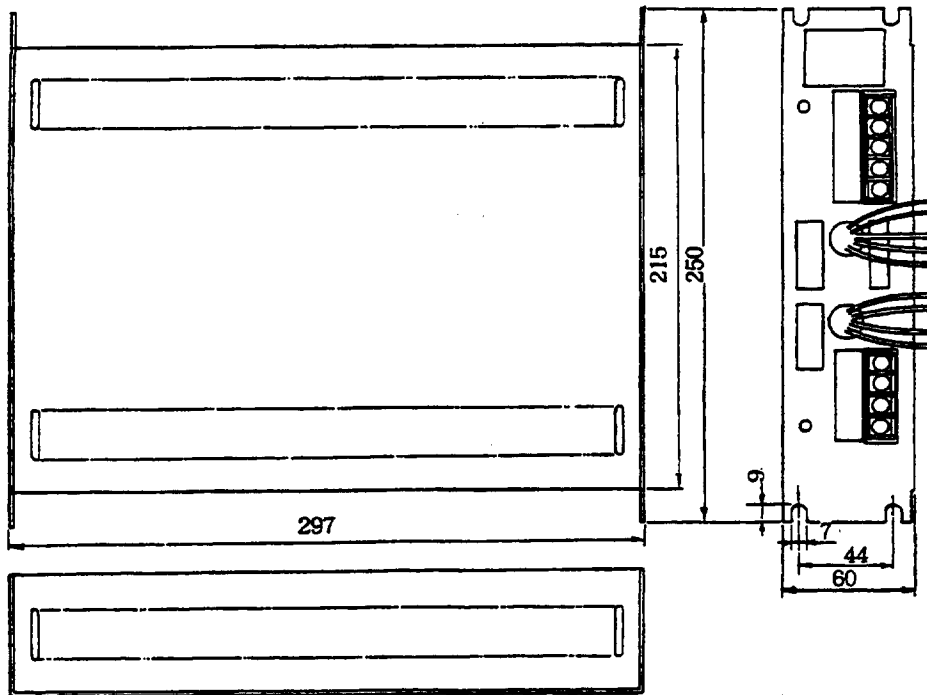

Figure 8.2 Noise Filter Box Dimensions (Unit: mm)
4. For the dimensions of the noise filter box, see Fig. 8.2.